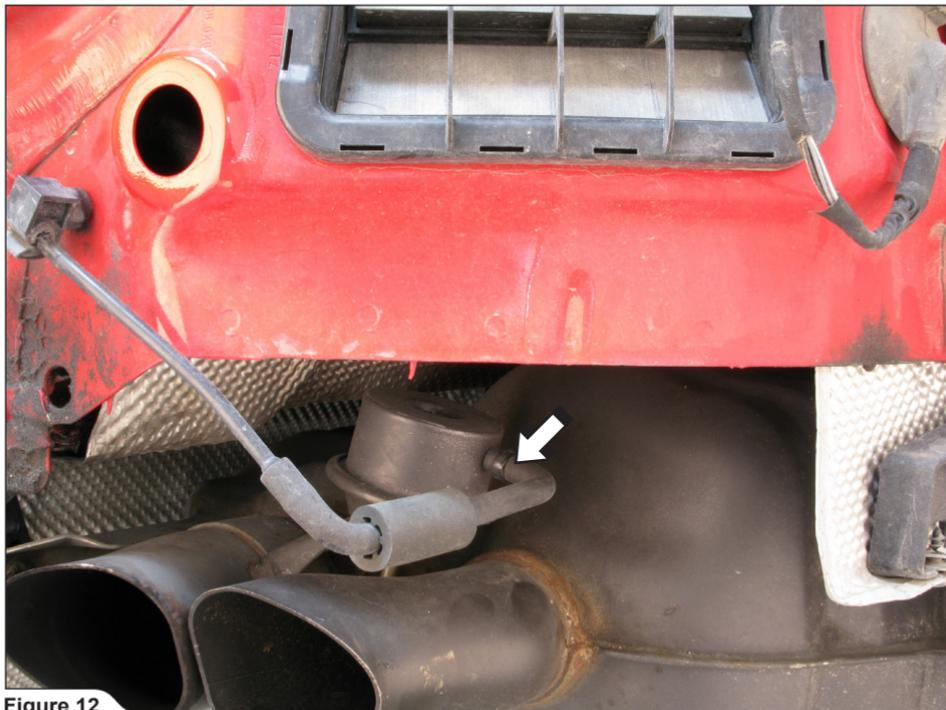

Figure 12
9. Carefully pull the vacuum hoses off both vacuum actuators (Figure 12).